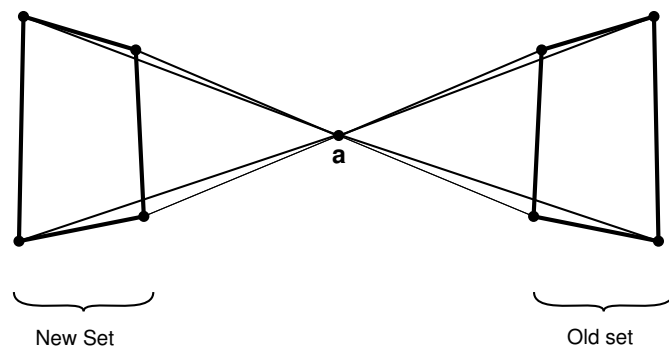

Figure 4: *NCOPY, REFLECT=POINT option.
1. X -coordinate of the reflection point (point a in Figure 4).